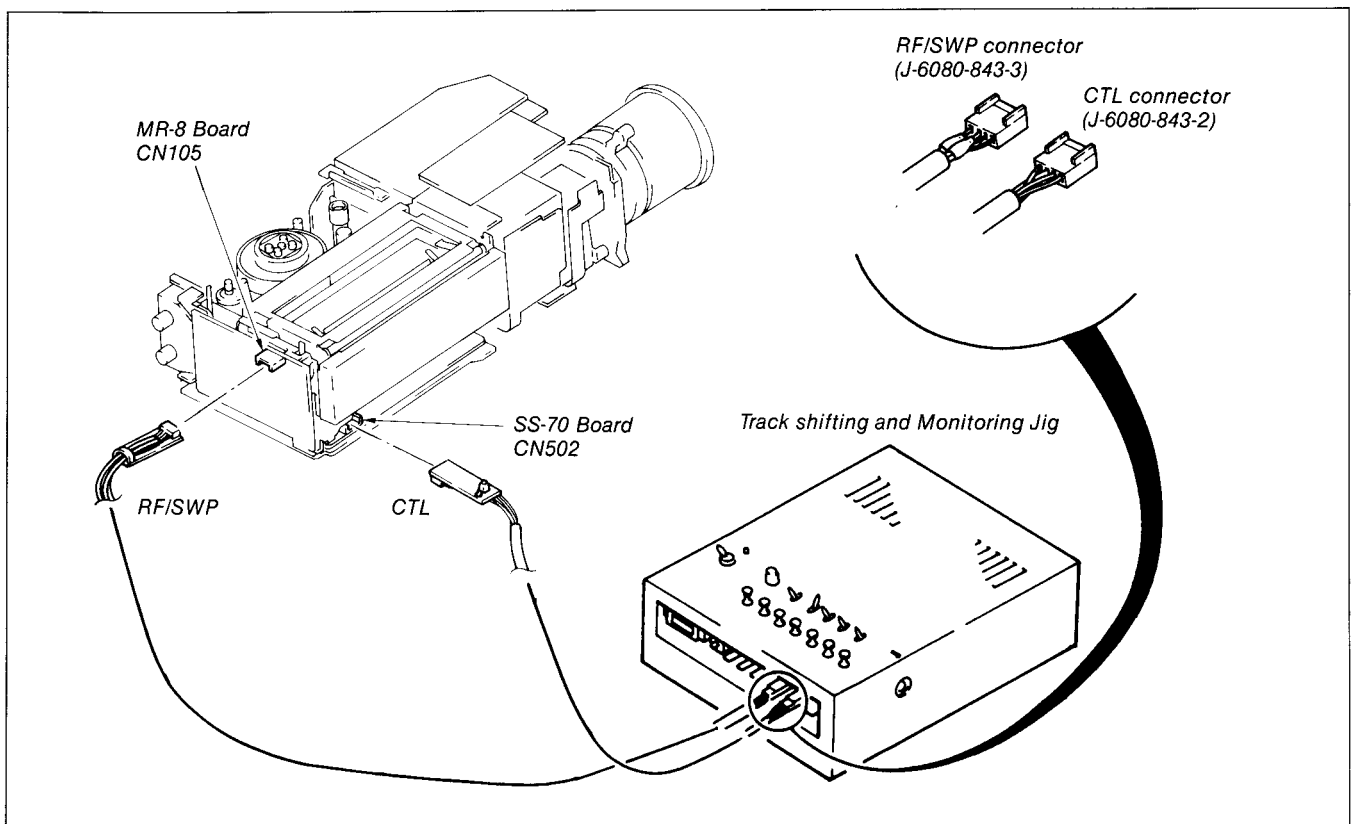

Fig. 8-50.
2) Connection of the connector (See Fig. 8-50)